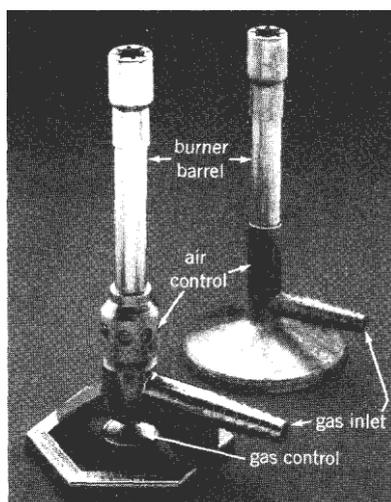

Figure 1.1 Bunsen-type burners.
Laboratory burners come in many shapes and sizes, but all accomplish one main purpose: a combustible gas-air mixture yields a hot, efficient flame. Because Robert Bunsen (1811-1899) was the first to design and perfect this burner, his name is given to most burners of this type used in the general chemistry laboratory (Figure1.1).
- Attach the tubing from the burner to the gas outlet on the lab bench. Close the gas control valve on the burner (see Figure 1.1) and fully open the gas valve at the outlet.